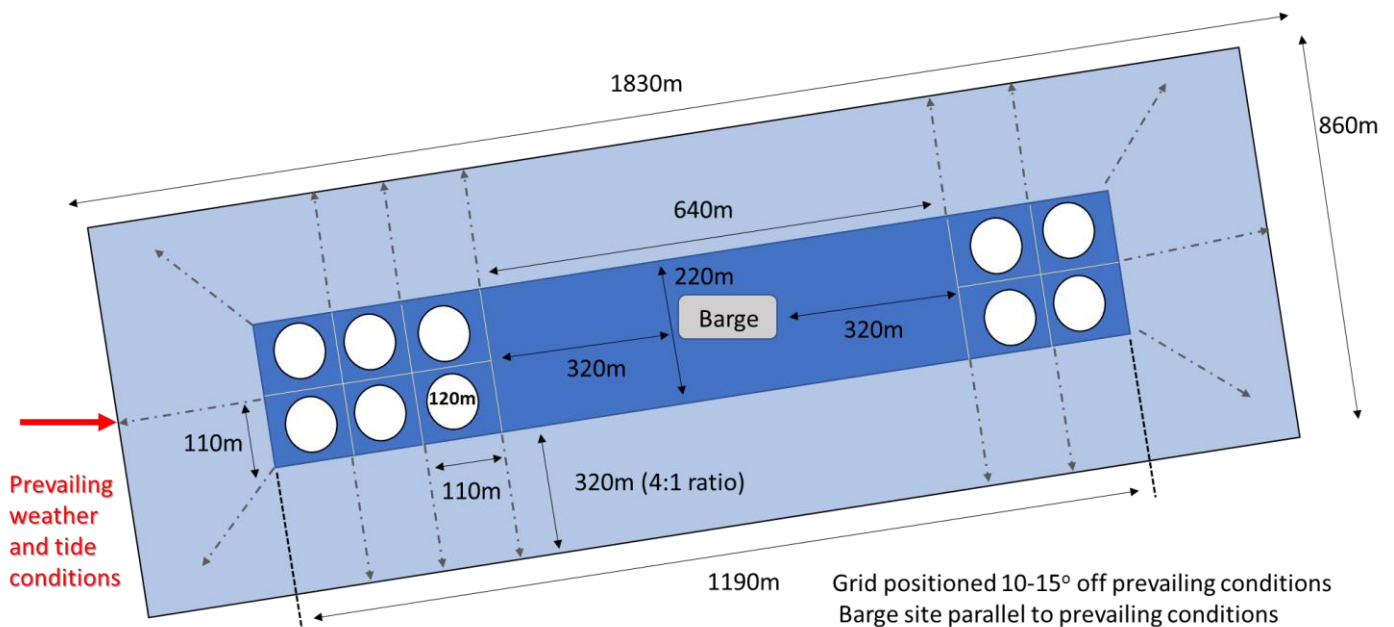

Figure 2. Atlantis 120m circumference pens with 80m pen bays and 4:1 mooring lines.
3. Initial pen size will be 120m circumference with an 110m2 grid and mooring line ratio of 4:1 (320m max length). Total grid size of 1190m x 220m (total area 26.18ha) and total farm size including mooring lines of 1680m x 860m or 157.38ha (refer figure 2). This estimate uses current knowledge and Akva's experience with both trial systems and commercial farms located on high energy sites.